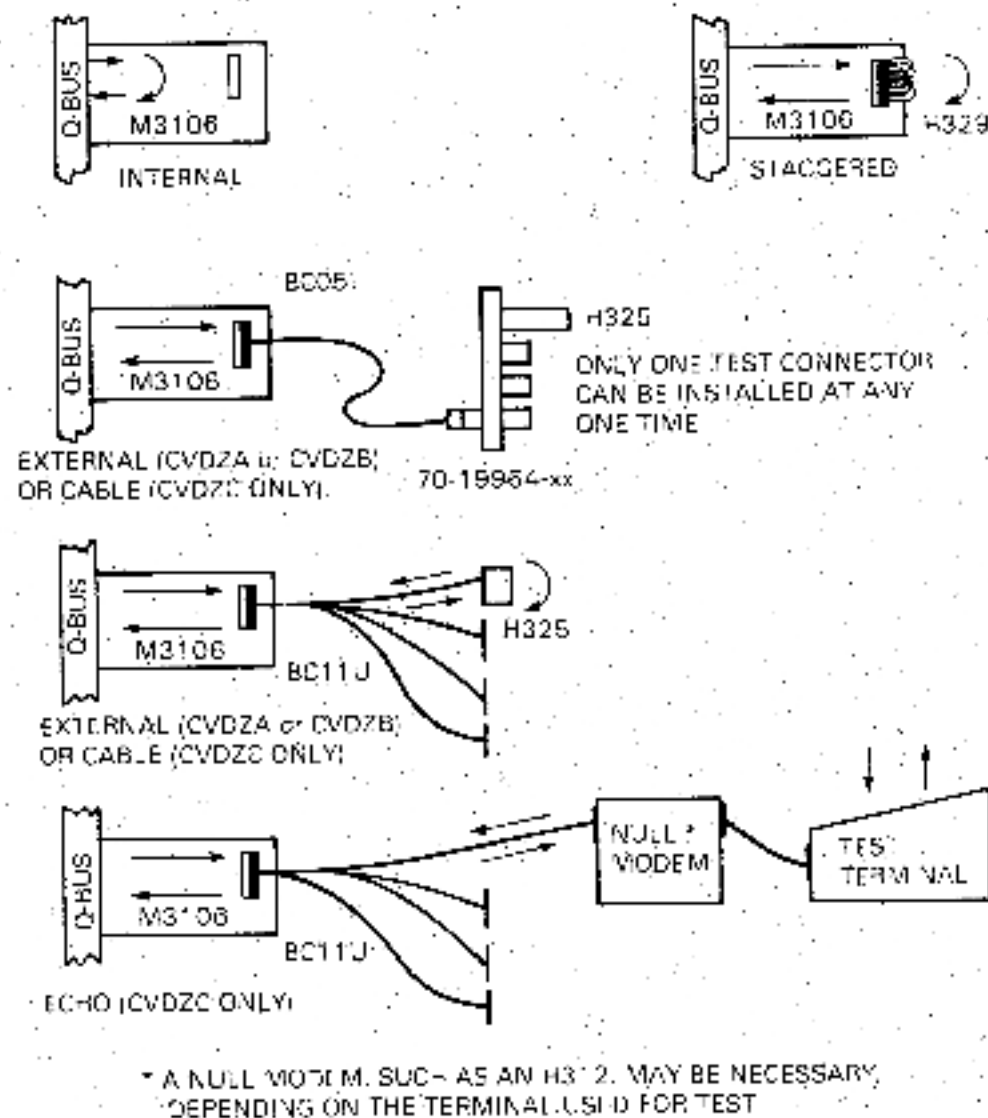
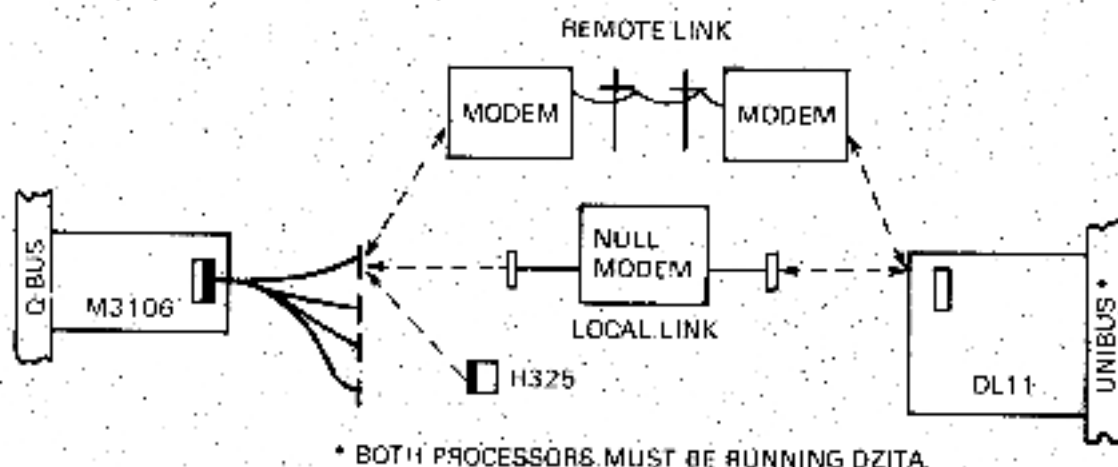

Figure 6-1 Maintenance Mode Data Flow
Figure 6-2 Interprocessor Test (ITEP)
6.3.4.2 Maintenance Modes — Figure 6-1 shows the data paths for the maintenance modes. The two basic programs (CVDZA and CVDZB) can be run in the internal, staggered, or external modes. The cable and echo test (CVDZC) can be selected either to loop characters from the program out through the test connector and back to the program, or otherwise to loop characters from a test console through the DZQ11 and back out to the test terminal. The interprocessor test program needs another CPU running the test together with the CPU under test. The other CPU may be a local system, or a remote system (such as a turnaround system). Refer to Figure 6-2. In this test, the two processors communicate to check the hardware from end to end. It is possible, however, to operate the program with an H325 loopback connector instead of another processor.
The cable test also needs an H325, as indicated in Figure 6-1. The echo test needs a terminal connected to the DZQ11. This may need a null modem, depending on the type of terminal.